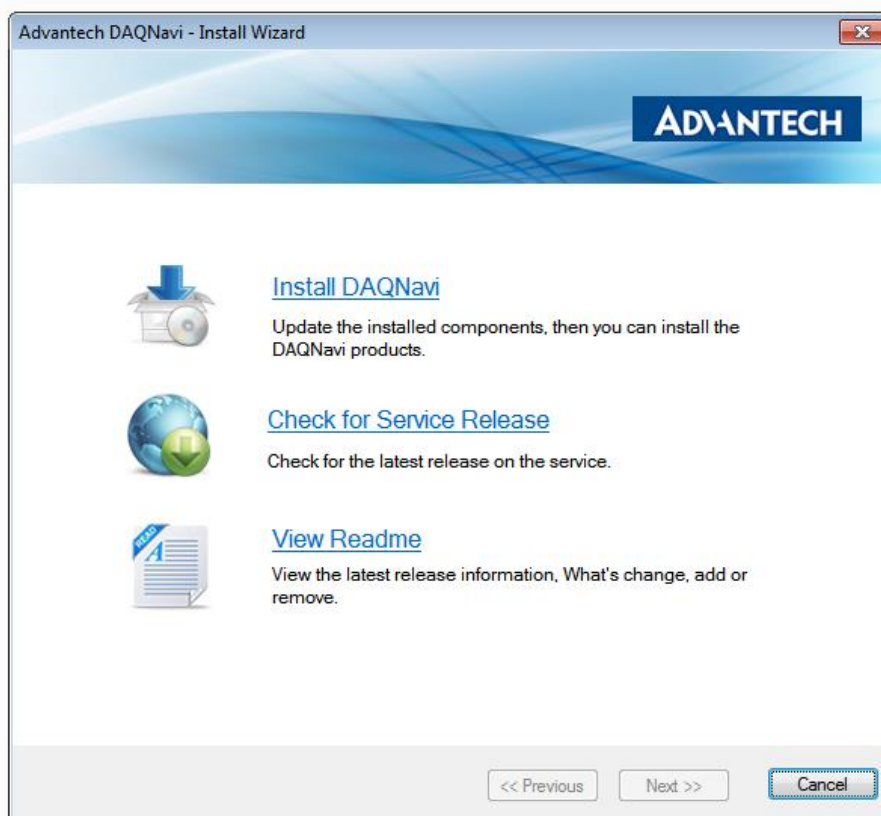

Figure 2 Initial Installation Window
1. Insert the CD supplied with the PCI-1711U card into the PC. The installation program will automatically start. The following window will open (Figure 2).